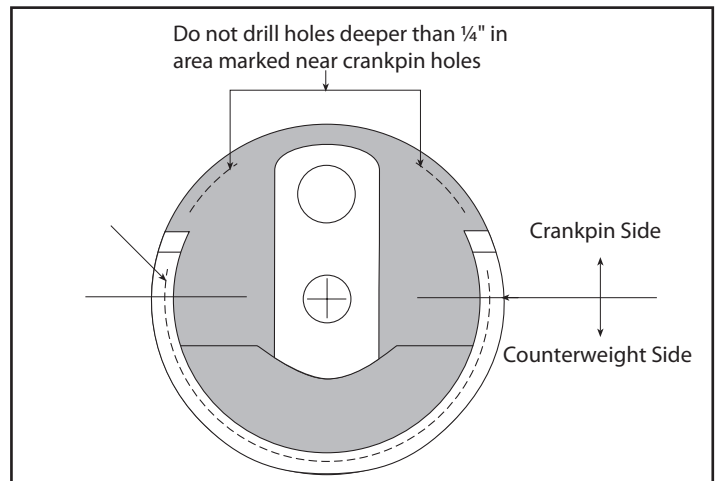

Figure 4
- E. Before drilling **see Figure 4, below right**, for recommended areas to drill. See following notes for drilling rules and additional information.
- Drill holes in center of face along dotted line in diagram. (See Figure 4, previous page) Leave $\frac{3}{16}$ " of material to avoid breaking out of back side of flywheel.